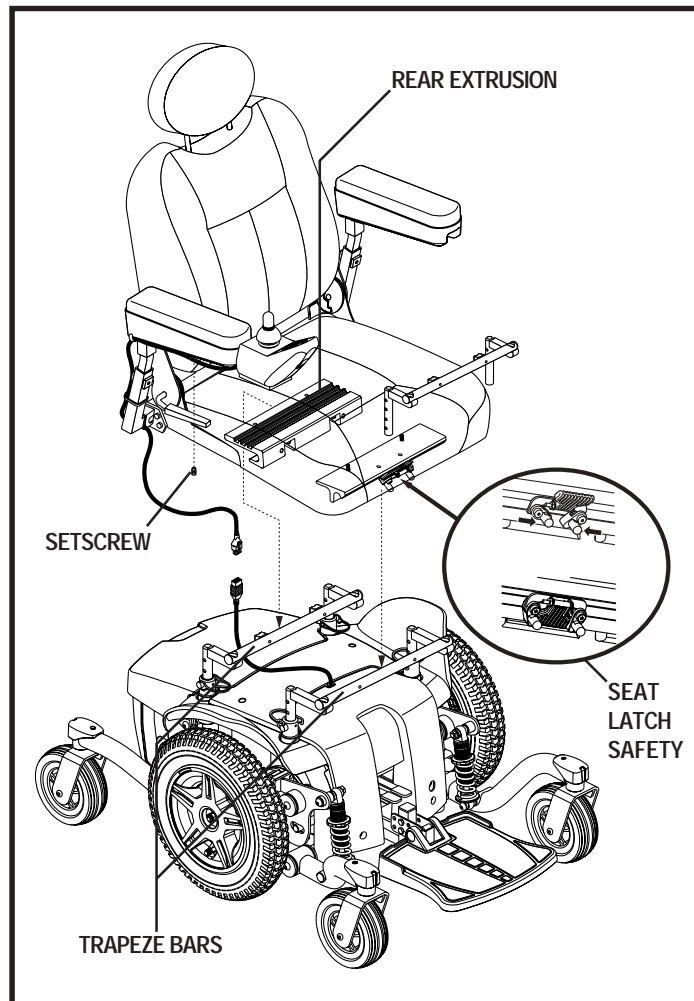

Figure 11. Universal Mounting System
It may be necessary to install the seat either prior to initial operation or after transporting your power chair. Most seats are attached to the power base with the Universal Mounting System (UMS). The UMS consists of universal parts that may be attached to any medium-back or high-back seat, regardless of seat width or seat depth. The two main components are aluminum extrusions mounted to the seat base. These extrusions attach to a pair of trapeze bars that are mounted to the power base. See figure 11.
1. Tilt the seat back and slide the rear extrusion onto the rear trapeze bar. See figure 11.
4. Install the controller into one of the armrests. Tighten the setscrew. See figure 11.
5. Lift the armrest straight up, then route the controller cable so that it cannot be pinched in the seat hinge as shown in figure 11.